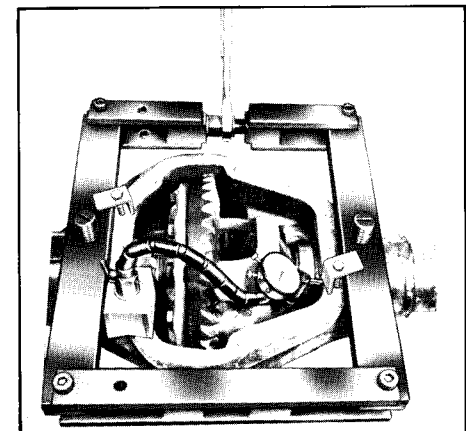

FIGURE 2
- Position the Dial Indicator (OTC #7079) as shown in Figure 2. Spread the carrier housing by turning the clevis screw. **Important:** Do not spread the carrier housing beyond the manufacturer's specifications, or damage can occur.